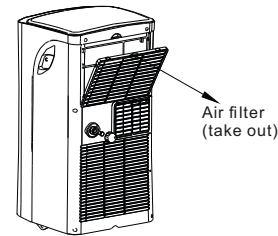

Fig.31
1. Remove filter according to arrow direction in Fig 31.